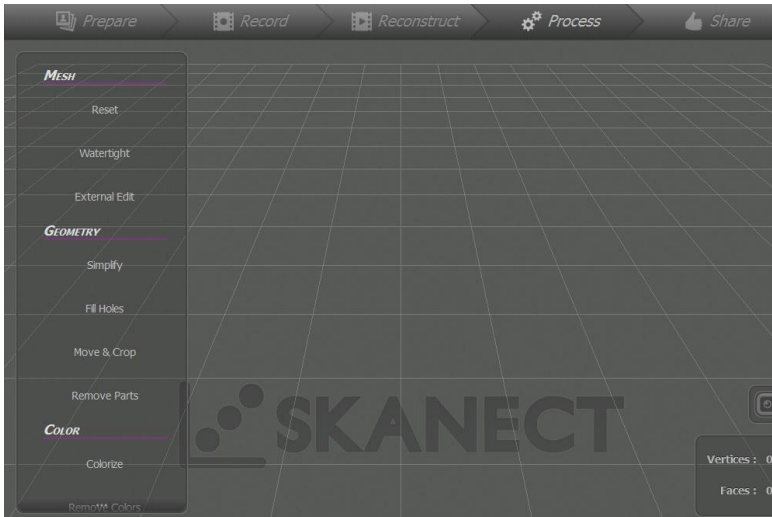

Figure 11: Processing Page
19. If rendering has surfaces that need filling, you may select **FILL** (FIG. 11) under the **GEOMETRY** bar